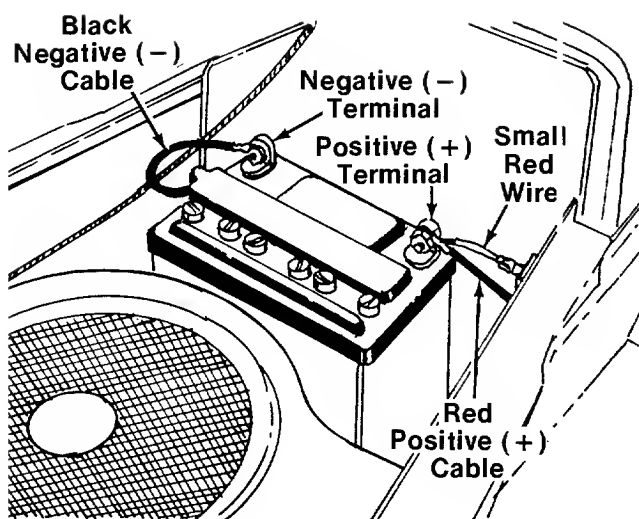

FIGURE 1.
2. Attach the positive cable (heavy red wire) and the small red wire (from the circuit breaker) to the positive battery terminal (+) with a  $\frac{1}{4}$ -20 x  $\frac{3}{4}$ " long bolt, lock washer and hex nut provided in the battery pack. See figure 1.